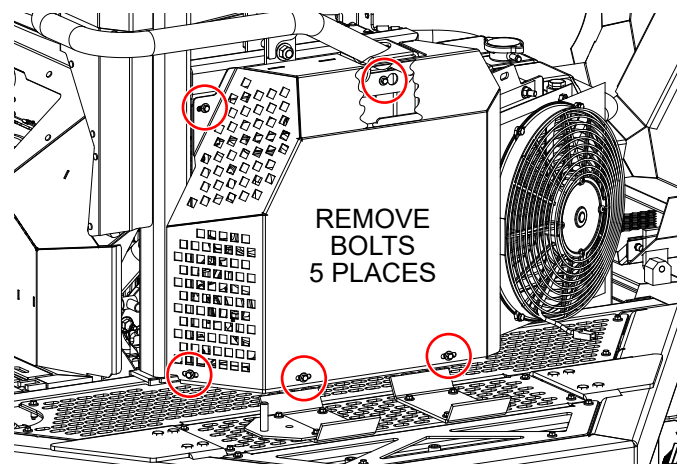

Figure 25. Hydraulic Oil Reservoir Cover Removal
6. If the hydraulic oil level is low, the hydraulic oil reservoir cover will need to be removed in order to access the hydraulic oil fill cap. Remove the five bolts securing the cover to the frame (Figure 25). Set the cover and bolts aside.